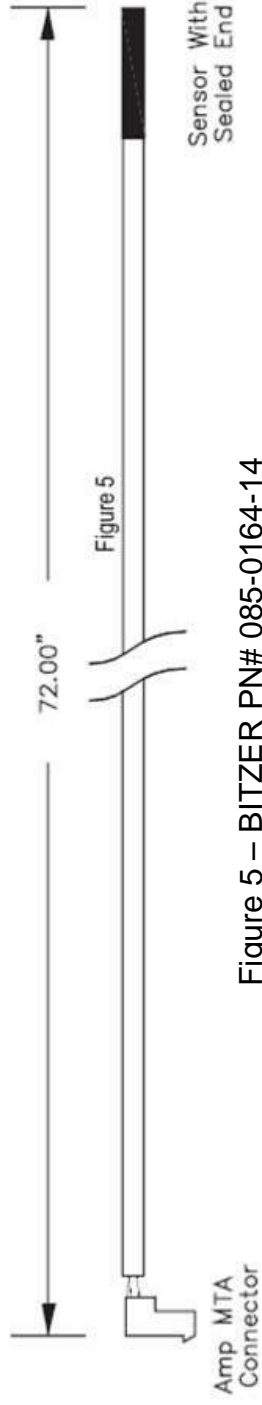

Figure 5 – BITZER PN# 085-0164-14
**Sealed End (bulb type)** sensor that can be mounted to the exterior of a pipe or mounted on a rod and centered in an air stream (PN# 085-0164-14) (See **Figure 5**). To line mount this sensor, first the surface of the pipe should be cleaned to a bright metal appearance. Heat transfer paste should be used to assure proper operation. The bulb can be held in place with the use of a pipe clamp.